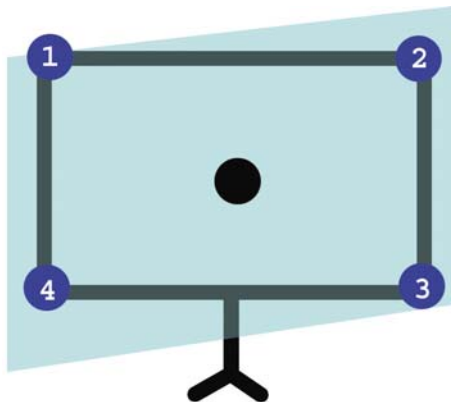

Figure 4. Four Corners Identified
5. Repeat Steps 3 and 4 for the remaining three corners. Move in a clockwise direction around the screen (as shown in Figure 4).